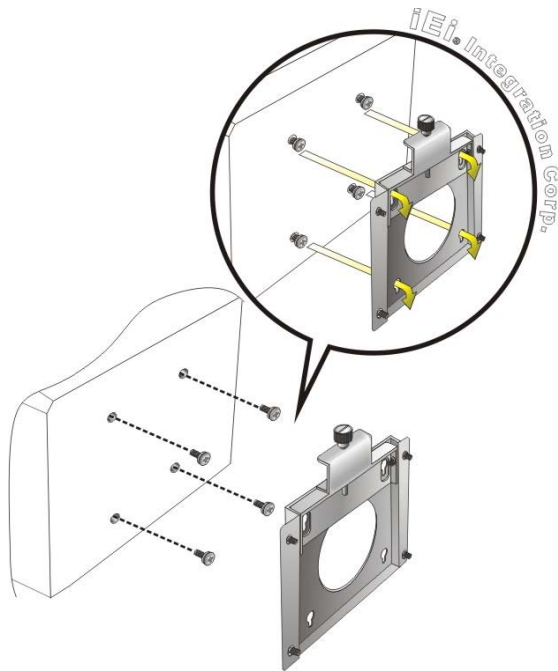

Figure 4-14: Chassis Support Screws
- Step 6:** Insert the four monitor mounting screws provided in the wall mounting kit into the four screw holes on the rear panel of the IOVU-572M and tighten until the screw shank is secured against the rear panel (Figure 4-14).
- Step 8:** Carefully insert the screws through the holes and gently pull the monitor downwards until the monitor rests securely in the slotted holes (Figure 4-14). Ensure that all four of the mounting screws fit snugly into their respective slotted holes.